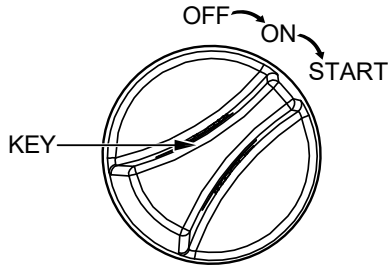

Figure 22. Ignition Key Switch (Start)
4. Insert the **ignition key** into the **ignition switch** (Figure 22). While keeping your foot **off** the foot switch, turn the ignition key **clockwise** to the **START** position. Once the engine starts, release the ignition key.